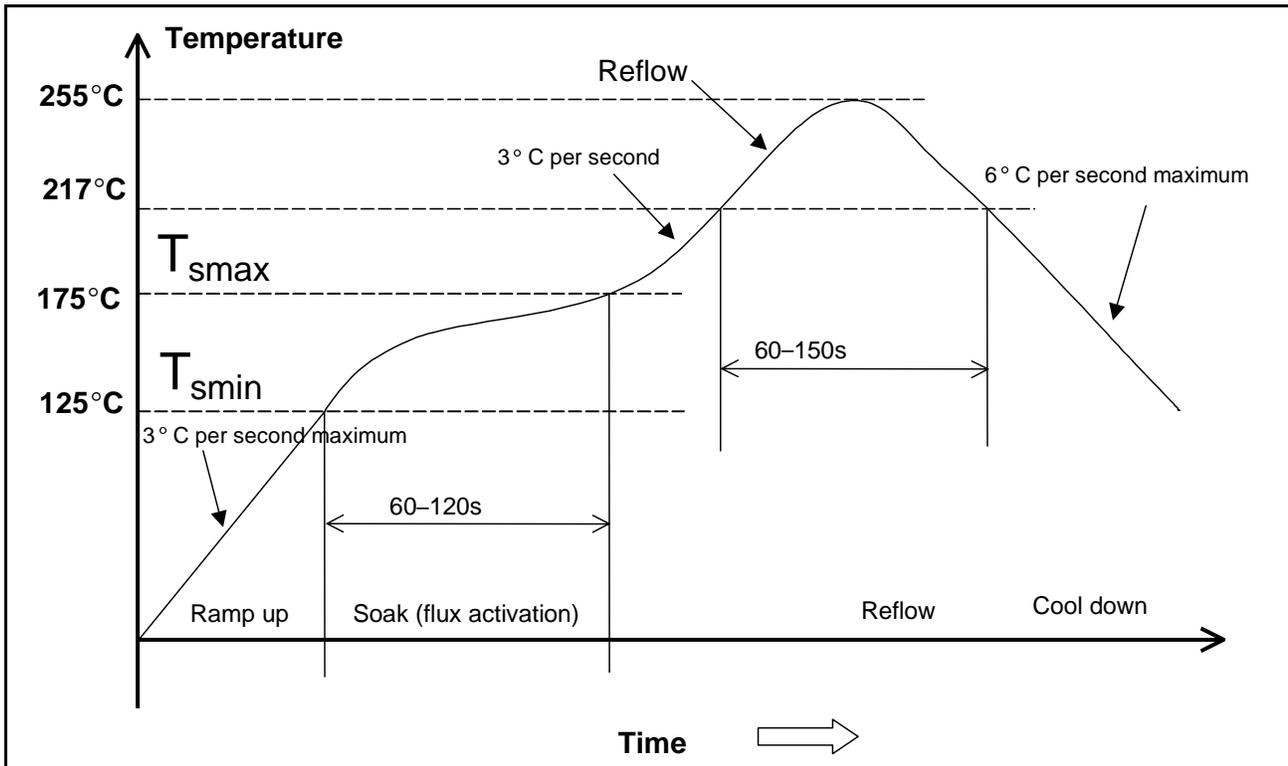

Figure 2: General Convection Reflow Profile for Pb-free Solder Alloy
**Note** The profile shown in Figure 2 represents the solder joint temperatures.